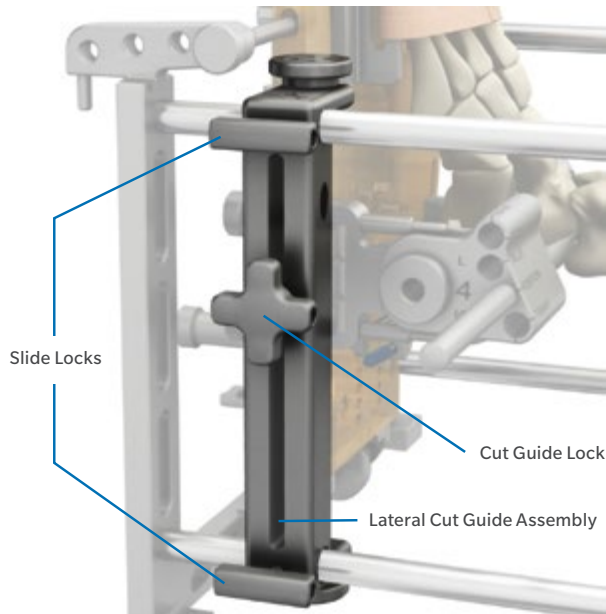

Fig. 36
- Tighten the Slide Locks to prevent proximal/distal movement of the Lateral Cut Guide Assembly (Fig. 36).